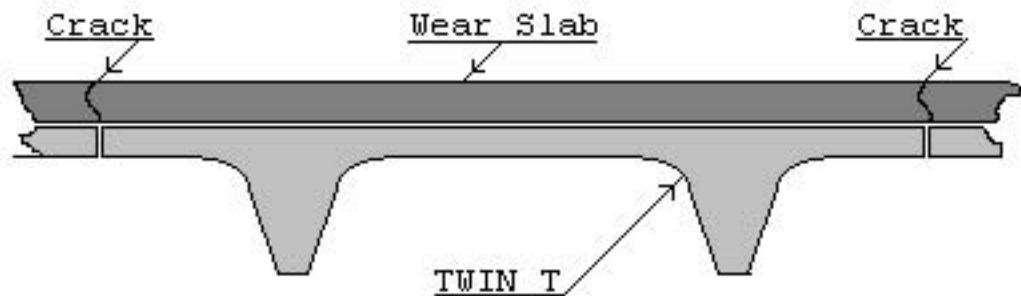

Fig. 1
- (A) Walk through the parking structure and make note of the type of concrete construction. Twin T construction with a topping slab will often have cracks at regular intervals in the topping slab. (See; GW-15 Details, Fig.1) These cracks are from movement and will require special attention when treating joints and cracks. Note if movement indicates neoprene sheet will be necessary for joint treatment.